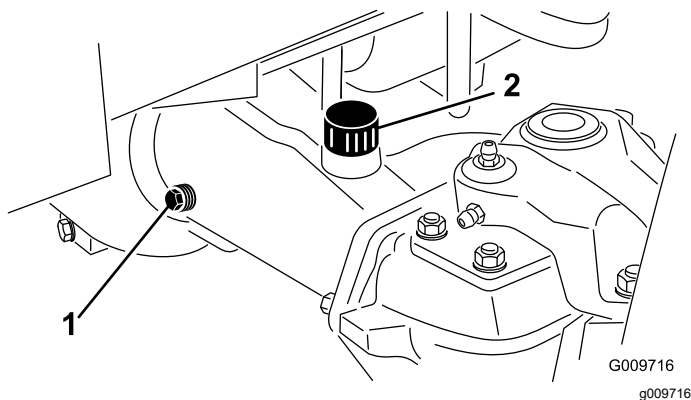

Figure 143
- Remove a check plug from 1 end of the axle housing (Figure 143).